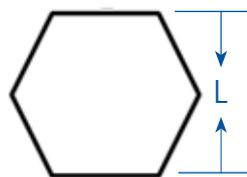

Figure 5
Step 4-Crimp contacts Crimp the contacts according to the parameters in Table 2, the crimp shape is a regular hexagon, and its outline diagram is shown in Figure 5.